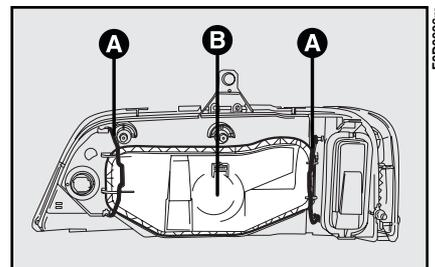

fig. 12
- 3) release the retaining clips **A**-fig. 12 and remove the cover **B**;
7) refit the retaining clips, the connector and the cover **B-fig. 12** and lock it with the relevant clips.